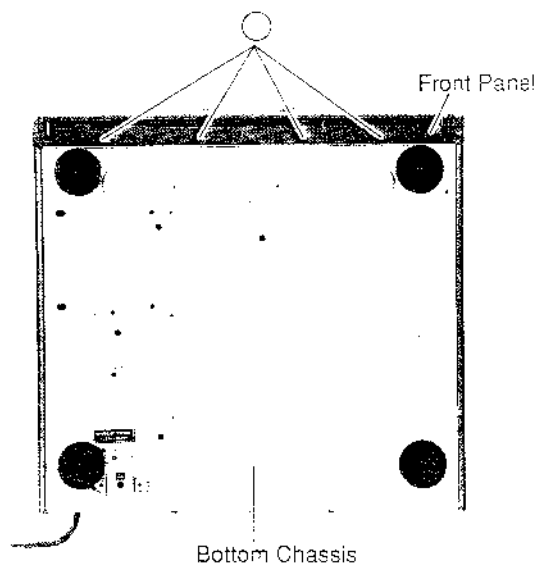

Figure 1
- (1) After removal of the Top Cover, remove four screws marked "O" as shown in Figure 1.
- (2) Disconnect all wires from the Deck Mechanism (A)/(B), Key Switch P.C.Board, REC Pause P.C.Board, REV Mode Switch P.C.Board, REC Volume P.C.Board, Dubbing Switch P.C.Board, and DIR Indicator P.C.Board (A)/(B).
- (3) Front Panel with the Deck Mechanism (A)/(B), Key Switch P.C.Board, REC Pause P.C.Board, REV Mode Switch P.C.Board, REC Volume P.C.Board, Dubbing Switch P.C.Board and DIR Indicator P.C.Board (A)/(B) can be removed completely.